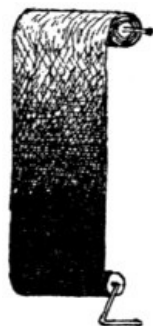

FIG. 213.
*Sunrise.*—Sunrise effects may be produced by means of the Sciopticon, but a cheaper method is often resorted to. This is illustrated in Figure 213 and consists of a roll of suitably colored silk which may be unrolled in front of an arc lamp. To produce sunrise it is unrolled in one direction, the darkest colors coming first and gradually giving way to lighter. For sunset it is worked the other way. In special cases a similar sheet of colored silk wide enough to cover open arcs has been stretched from the floor to the top of the scenery and several arc lamps arranged behind it in such a manner that they could be gradually raised, thus producing the same effect with more impressiveness, but with a much greater quantity of light.